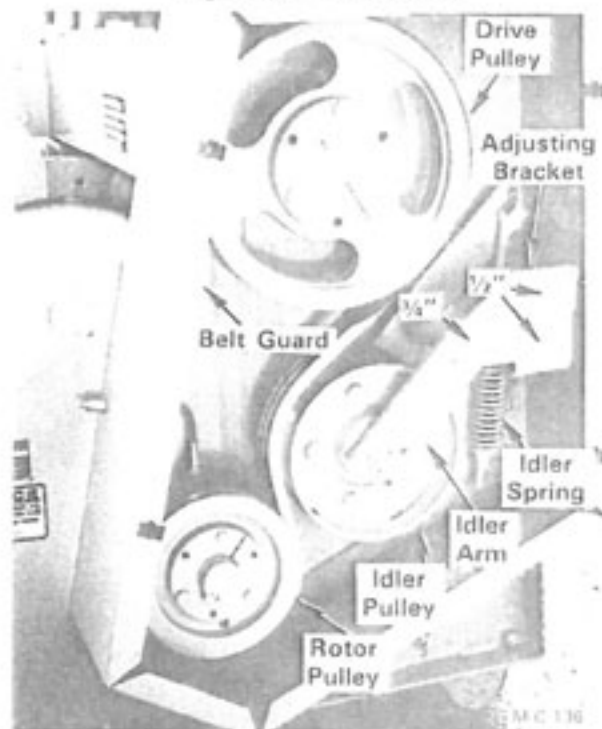

Figure 30 - Model 8HD Shown
2. Remove the belt guard cover, belt guard and bearing lubrication hose, see Figure 30. Remove the drive belts. Refer to "Drive Belt Replacement" page 16 for procedure.